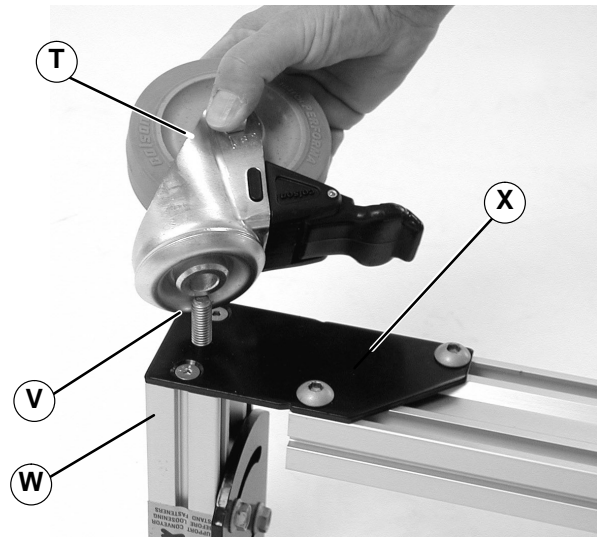

Figure 12
1. Install caster (T of Figure 12) over bolt (V). Bolt is already assembled in stand leg (W) and through the tie plate (X).